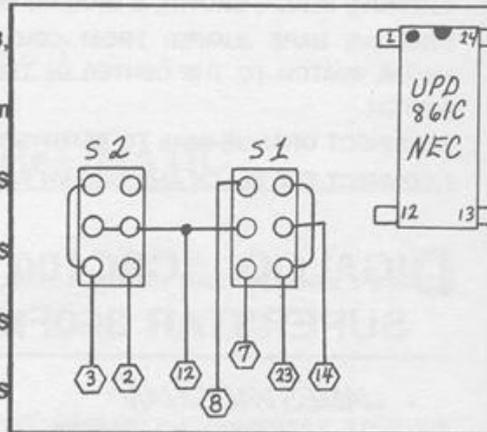

FIGURE 1. TRC-468
1. REFER TO FIGURE 1. ISOLATE PINS 7, 8, AND 14.
3. WIRE TWO DPDT CENTER OFF SWITCHES AS PER FIG.1.